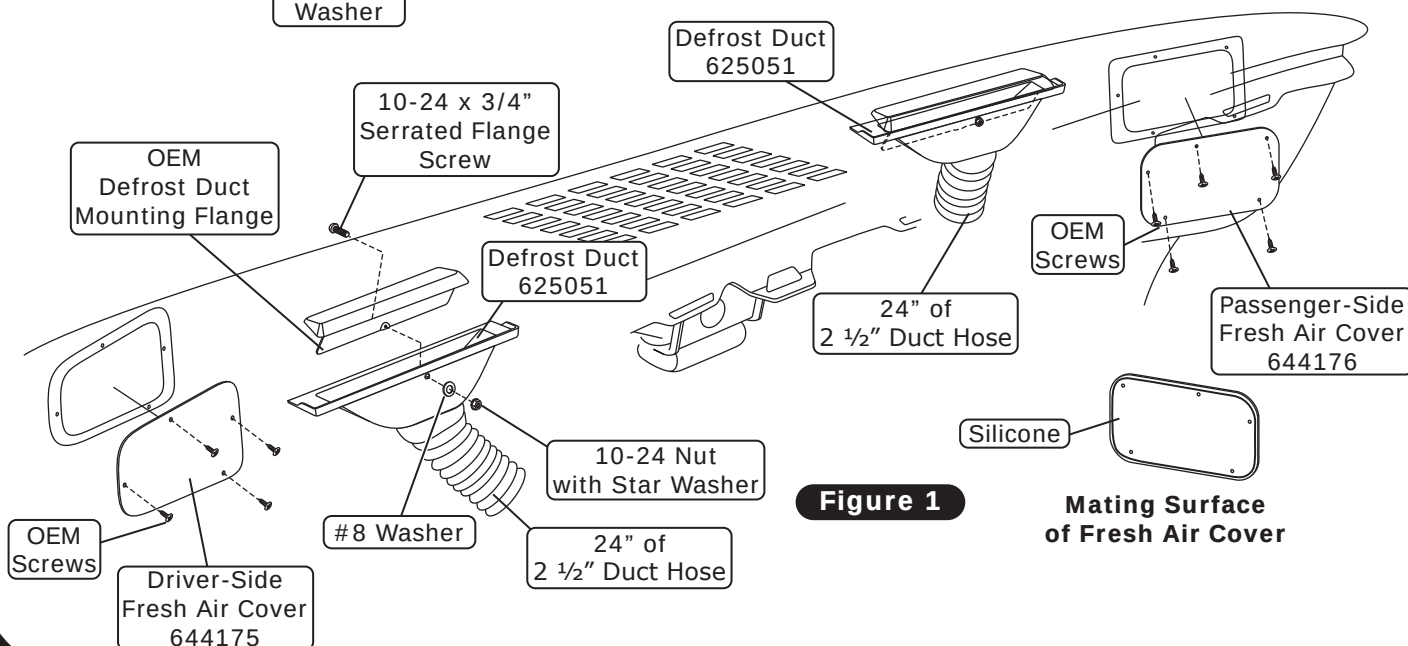

Figure 1
2. Install (2) S-clips ((1) on each side) onto the driver-side hose adapter as shown in Figure 1, below.
3. Secure 36" of 2 ½" duct hose onto the driver-side hose adapter as shown in Figure 1, below.
4. Install the driver-side hose adapter onto the back side of the driver-side OEM louver as shown in Figure 1, below.
6. Using (3) OEM screws, install the passenger-side hose adapter onto the back side of the passenger-side louver as shown in Photo 1, below.